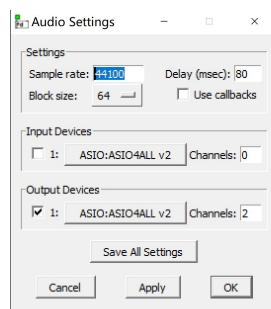

Figure 1.8: ASIO - Pure Data configuration
4. Select ASIO in the 'Input Device' and 'Output Device' as shown in Figure 1.8.